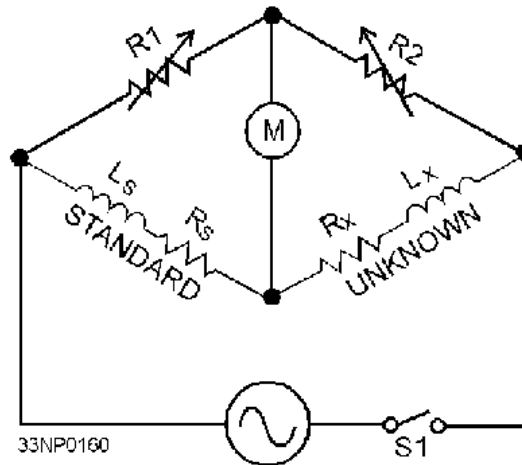

Figure 1-8.—Inductance bridge.
**INDUCTANCE BRIDGE.**—The value of the unknown inductance  $L_x$  may be determined by means of the simple bridge circuit shown in figure 1-8. Ratio arms  $R_1$  and  $R_2$  are accurately calibrated resistors.  $L_s$  is a standard inductor with a known inductance;  $R_s$  is the known resistance, and  $R_x$  represents the resistance of the unknown inductor.
In figure 1-8, for example, the values of  $R_1$ ,  $R_2$ , and  $R_s$  are 20, 40, and 60 ohms, respectively. The value of  $L_s$  is 10 millihenries. We can find the values of  $R_x$  and  $L_x$  by using their respective formulas as follows: